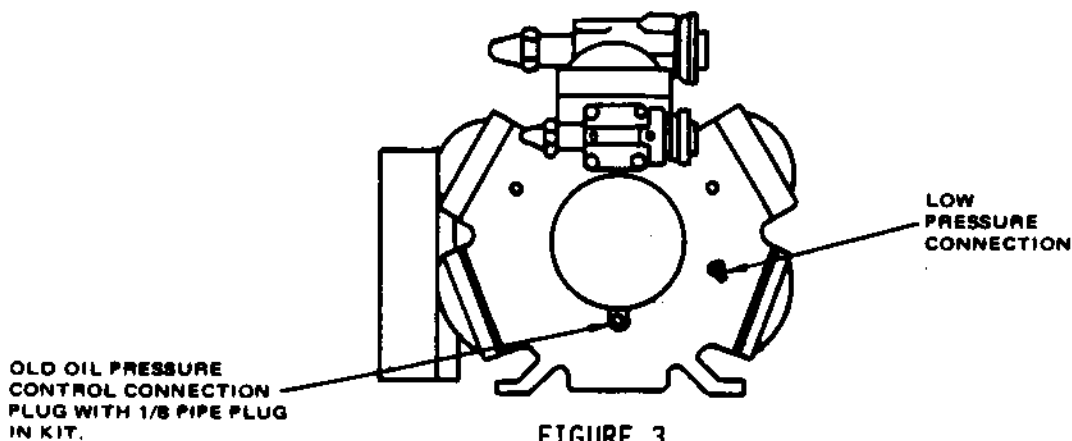

FIGURE 3
8. Remove the oil pressure control line from the compressor connection and remove the flare adapter fitting from the compressor (See Figure 3).
9. Plug the port by using the 1/8 pipe plug provided. (See Figure 3) Note: Threads must be sealed with "leak-lock" or "glptol".